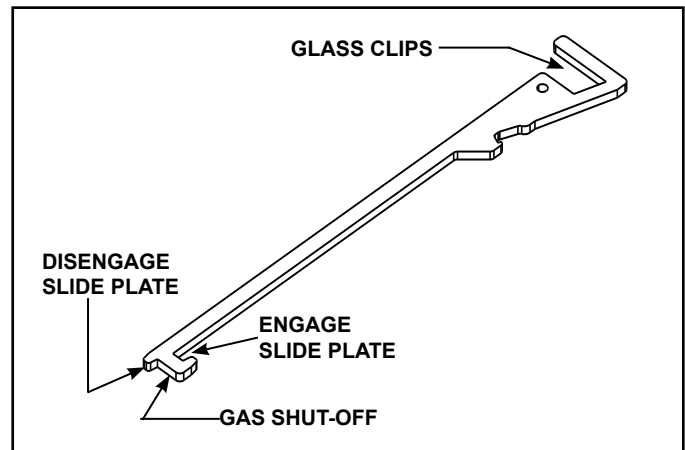

Figure 2.1 Multi-Purpose Tool
- See Figure 2.1 for multi-purpose tool functions and features.